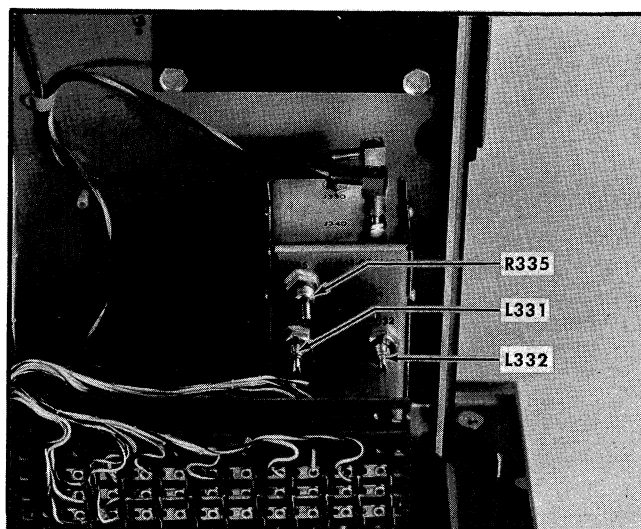

Fig. 6-25. Rear view of front-panel area below the Display Selector switch showing location of the precision phase shifter adjustments.
n. Preset L331 to midrange and R335 clockwise (see Fig. 6-25).